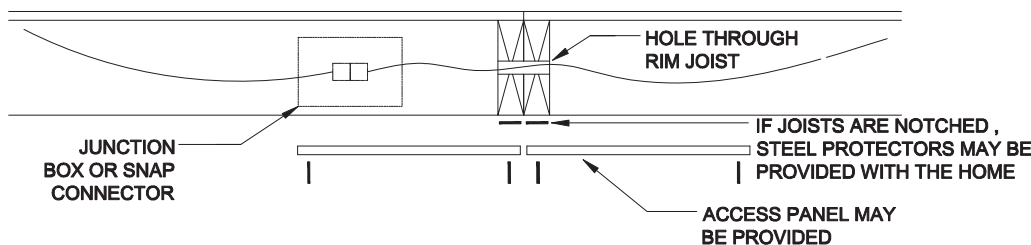

Figure 39. Electrical crossover floor wires with flush access panels
1. **Access wires.** Find the crossover location(s) and remove the access panel(s) if attached. If access panel openings are not provided, cut through bottom board to expose the wiring (Figure 39).